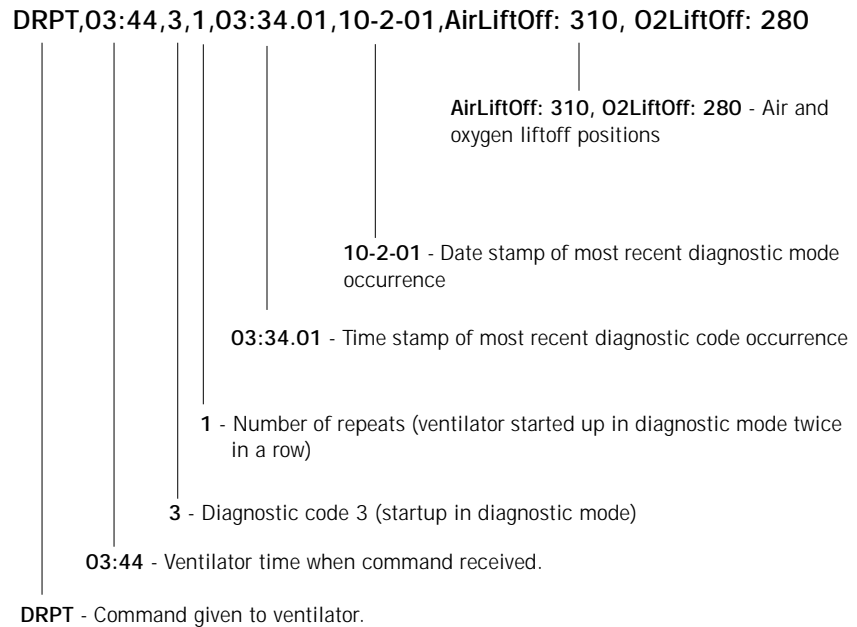

Figure 7-11: Interpreting the DRPT Report
4. Figure 7-11 shows how to interpret each line of the DRPT report.